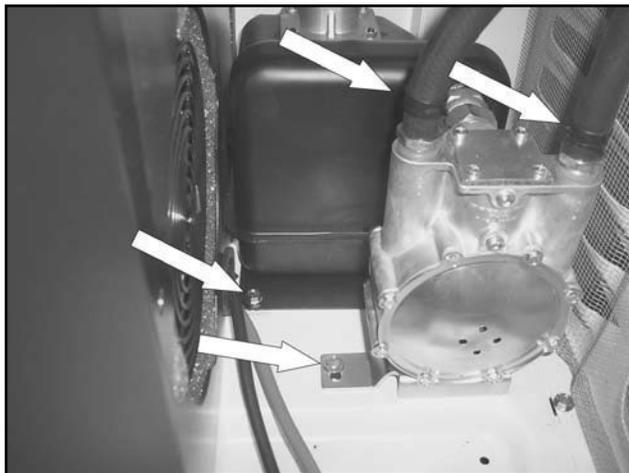

Figure 12.
- Remove fuel regulator: Remove the two fuel hoses at the top of the regulator. Using a 10mm socket remove one 10mm bolt from the base of the plenum and one 10mm bolt from the base of the fuel regulator. Flex the enclosure side out to allow for room to remove the regulator assembly. See Figure 12.